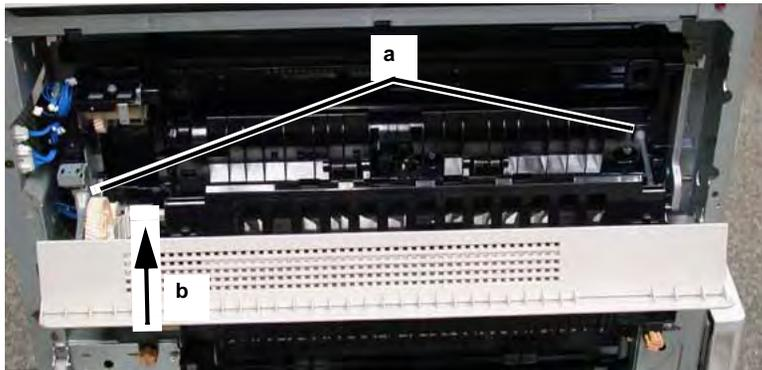

Figure 8 Removal
9. Remove the Left Hand High Chute (Figure 8).